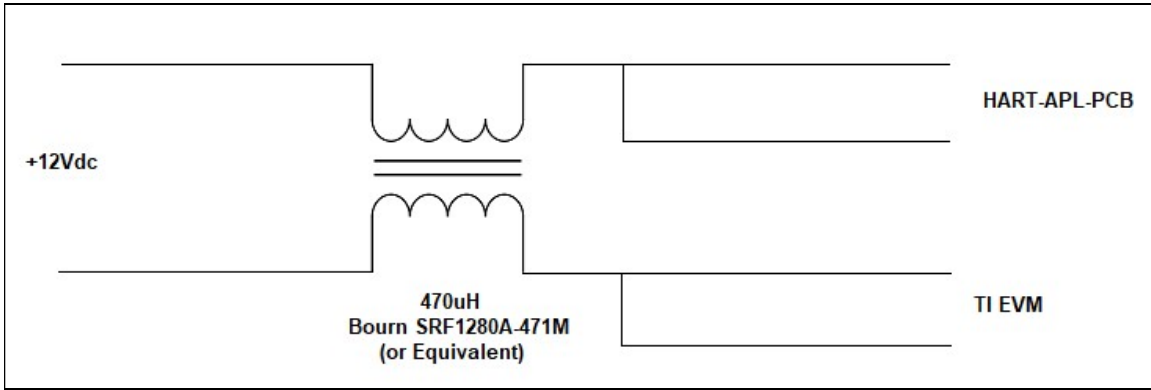

Figure 5. TI EVM Power Cable Wiring Diagram
4. Connect a 12Vdc power supply to the APL interface using the wiring diagram of Figure 5.